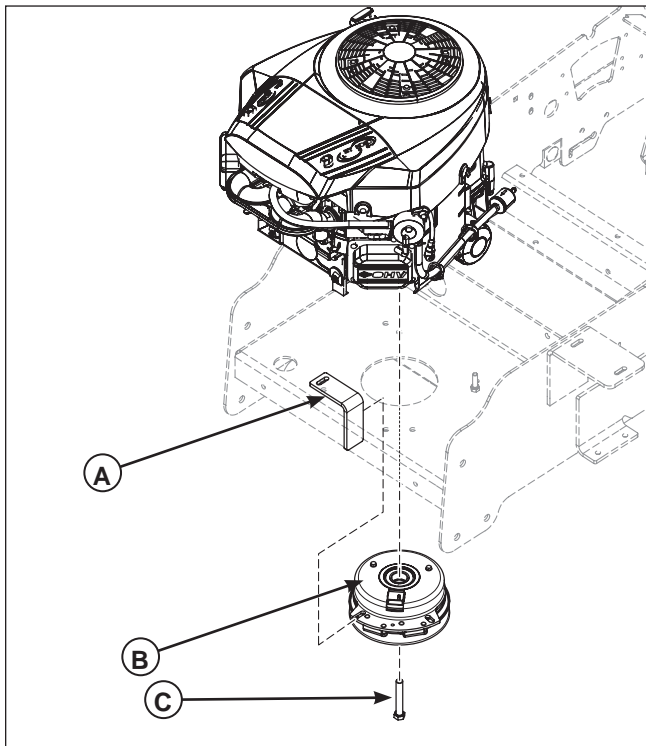
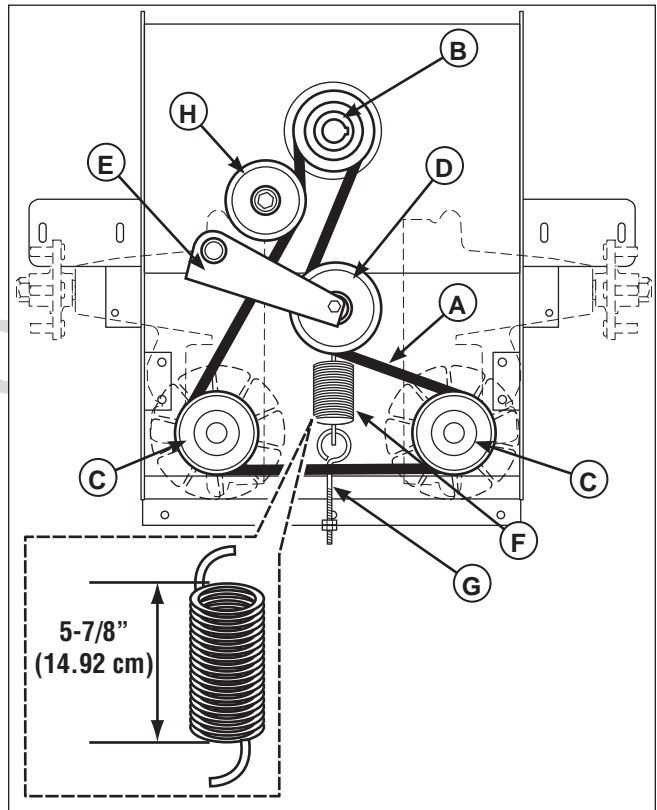

Figure 43. Removing the PTO Clutch
Figure 44. Hydraulic Pump Drive Belt Replacement
3. Loosen and remove the crankshaft bolt (C, Figure 43) and the PTO clutch (B) from the engine crankshaft.
4. Loosen the nut on the spring anchor eyebolt (G, Figure 44) to release the majority of the belt tension. Use caution and remove the nut to completely release the tension.
6. Reinstall the spring anchor eyebolt (G) into the anchor tab and loosely fasten the nut. Adjust the anchor eyebolt until a measurement of 5-7/8" (14.92 cm) is achieved from the outside of the spring hooks. Tighten nut.
**NOTE:** Make sure that the slot in the PTO clutch lines up with the PTO clutch mounting tab (A, Figure 43) underneath the engine deck.